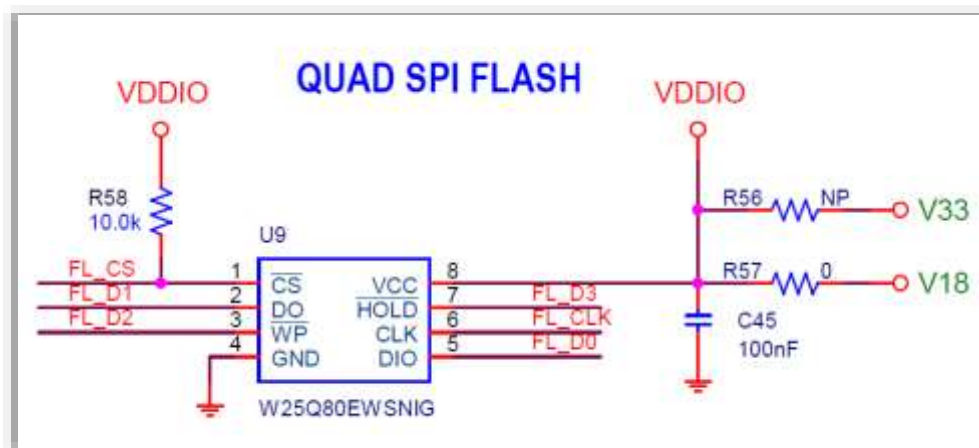

Figure 11: QSPI Flash with selectable power supply (V33 or V18)
The DA14683 USB kit includes an external QSPI Data Flash memory from Winbond. The W25Q80EW Flash memory supports the standard Serial Peripheral Interface (SPI), Dual/Quad I/O SPI as well as 2-clock instruction cycle Quad Peripheral Interface (QPI), Serial Clock, Chip Select, Serial Data I/O0 (DI), I/O1 (D0), I/O2 (/WP), and I/O3(/HOLD). The power supply for QSPI can be selected from V33 or V18 with V18 being the default choice (Figure 11). The same supply voltage is also connected to the DA14683 VDDIO pin. The selected QSPI flash for the DA14683 USB kit is W25Q80EWSNIG in a SOIC package.